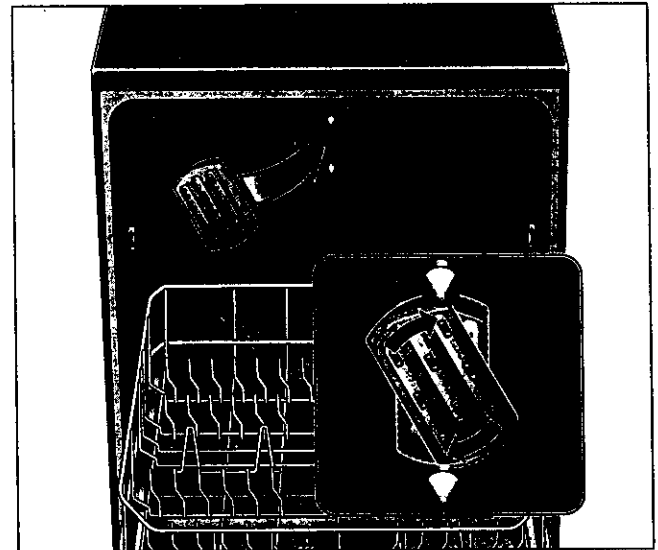

Figure 7.
If you have extra tall items that cannot fit in the lower rack without interfering with the upper spray arm or without hitting the upper rack, the upper rack may be removed. A special "Extra Tall Item Sprinkler" is provided with the dishwasher to allow use of the dishwasher with upper rack removed. See figure 7.
- Place the "Extra Tall Item Sprinkler" over the upper rack spray outlet at the back of the dishwasher tub (refer to figure 7) and turn clockwise to lock sprinkler head in place.